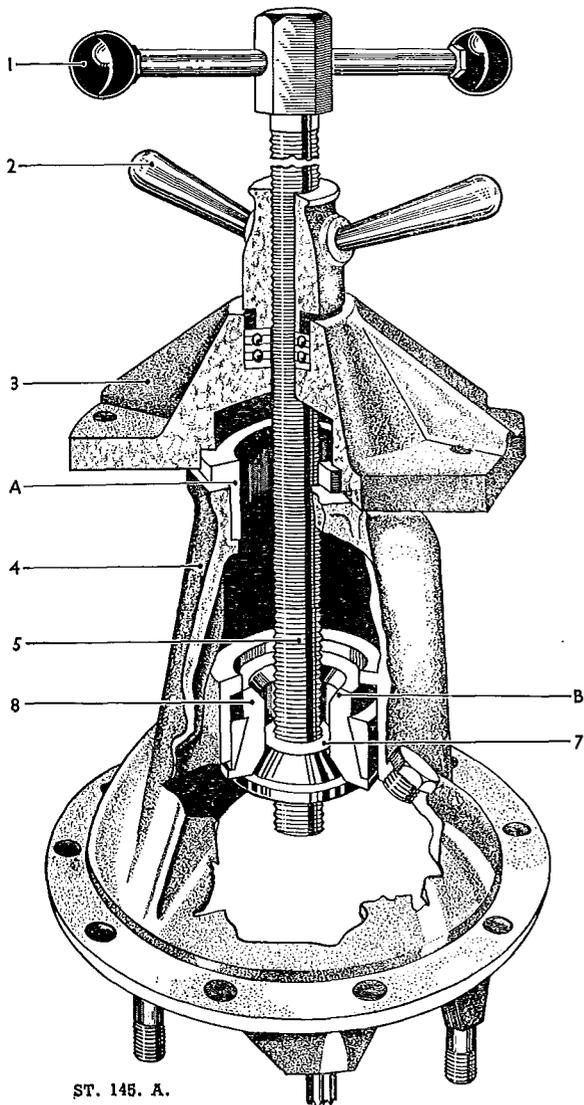

Fig. 7. Replacing pinion rear outer race.
To refit the rear outer race in the gear carrier, position the adaptor ring (A) in the smaller opening thus serving as a pilot for the body of the tool, see Fig. 7. Pass the screw (5) through this ring, place the rear outer race (8) over the cone (7) at the end of the screw (thrust face innermost) and place the split adaptor (B) inside the race. Hold the tommy bar while screwing up the cone (7) to bring the adaptor and race into position. Then rotate the wing nut (2) until the race is firmly in place.